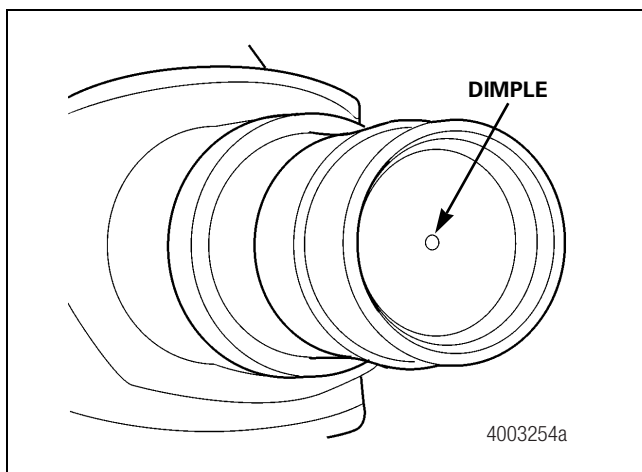

Figure 8.10
- An acceptable gauge point for measuring "C" and "D" is the dimple in the spindle end plug located on most trailer axles. To reach this plug, remove the rubber hubcap oil filler plugs. Other acceptable gauge points are the edges of the wheel rims as noted earlier. Figure 8.10.